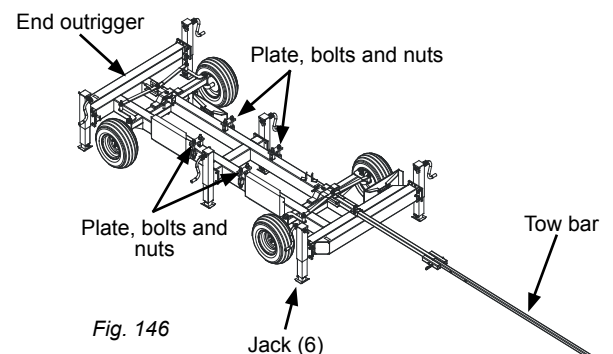

Fig. 146
- 1- Using the jacks (fig. 146), lift the mobile chassis until its tires barely touch the ground.
- 2- If the mobile chassis is already installed, proceed to step 4. Using the jacks (fig. 146), lift the mobile chassis until its tires barely touch the ground.
- 2- Using the jacks (fig. 146), lower the mobile chassis until its tires sit squarely on the ground.